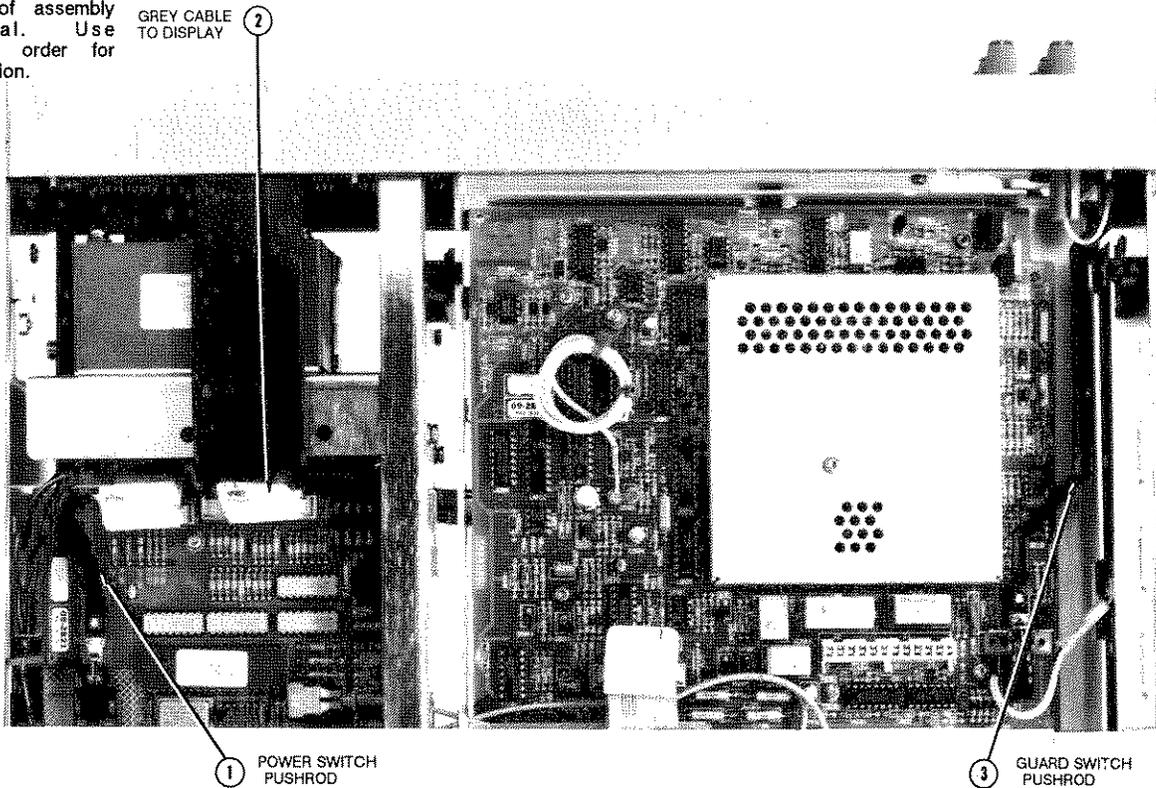

Figure 3-16. Guard and Power Pushrods, and Display Cable Locations
The label numbers in Figures 3-16 and 3-20 show the order of assembly removal. Use reverse order for installation.
3. Refer to Figure 3-16. Do the following:
15. Refer to Figure 3-16. Do the following: